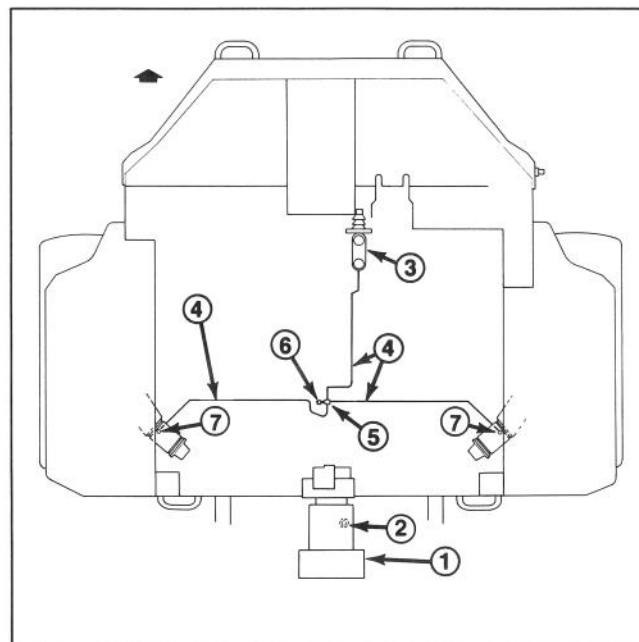

Figure 15
2. Oil the O-ring seal and install the brake switch into the pump (Fig. 15).
1. Place a drain pan under the hydraulic pump assembly. Remove and discard the pump plug from the bottom right side of the pump (as viewed from the operator's position) (Fig. 15).
2. Place a drain pan under the machine and remove and discard the brake tubing from the master cylinder, both front wheels and the tee fitting connecting the lines together (Fig. 15).
4. Install the brake switch into the tee fitting (Fig. 15).